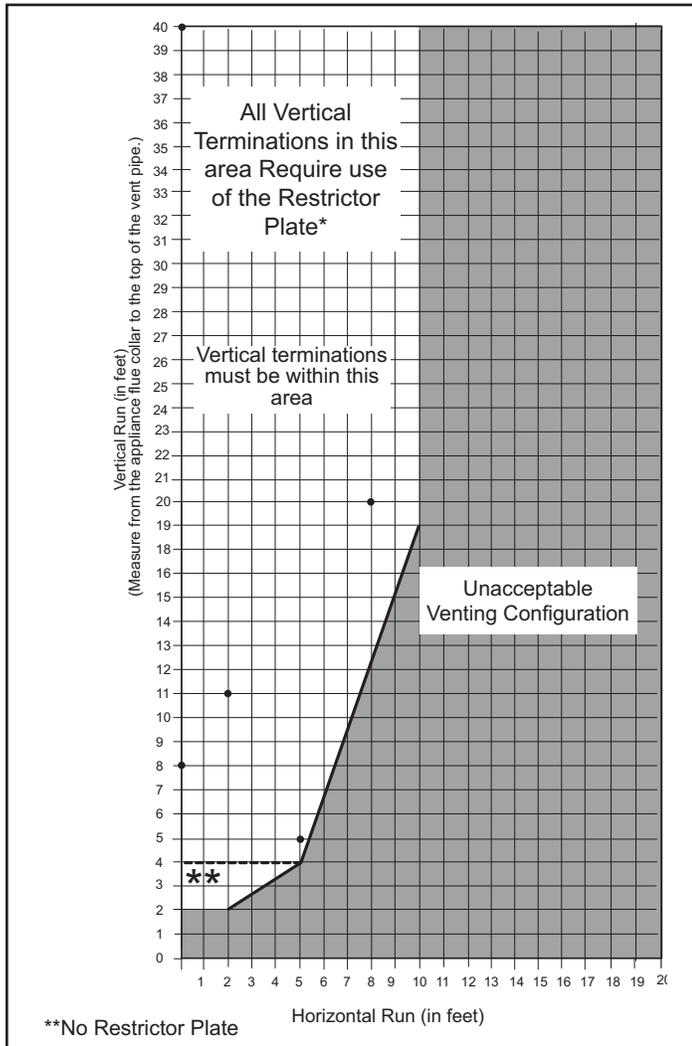

Figure 2.8 - Vertical vent termination window.
A vertical vent system must terminate no less than 8' (2.44 m) and no more than 40' (12 m) above the appliance flue collar. A restrictor plate (supplied) must be used, where specified, in all vertically terminated vent systems. (Refer to Figure 2.8) **NOTE:** The restrictor plate supplied with the vertical termination should be discarded. Adjust the restrictor plate according to recommendations in Figure 2.10. A vertically terminated vent system must also conform to the following criteria:
- Termination height must conform to roof clearance as specified in Figure 2.8.